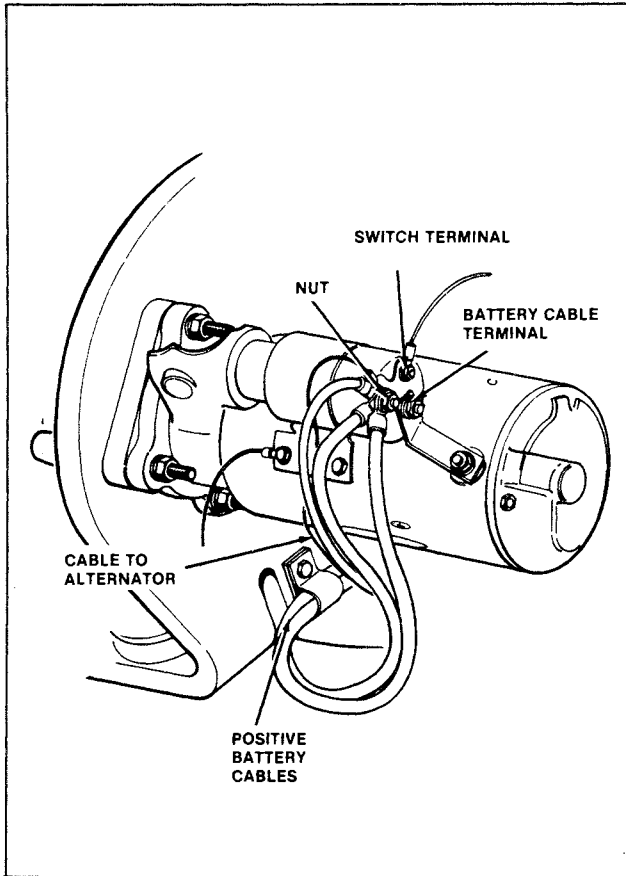

FIGURE 2-7: Starter Wires
25. Disconnect and label electrical leads at starter (Figure 2-7).
17. Connect electrical leads to starter (Figure 2-7). Torque battery cable terminal nut to 5 to 10 lbf ft (7 to 13 N·m) and switch terminal nut to 16 to 30 lbf in. (1.8 to 3.4 N·m).